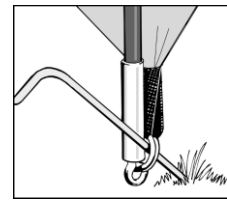

Figure 2.
- Peg down main pole through metal rings using pin pegs. (See figure 2)
2. Peg the corners of the tent through the metal rings using pin-pegs. It is important to drive the peg into the ground at a 45 degree angle to obtain the best grip. **(See Figure 2)**.